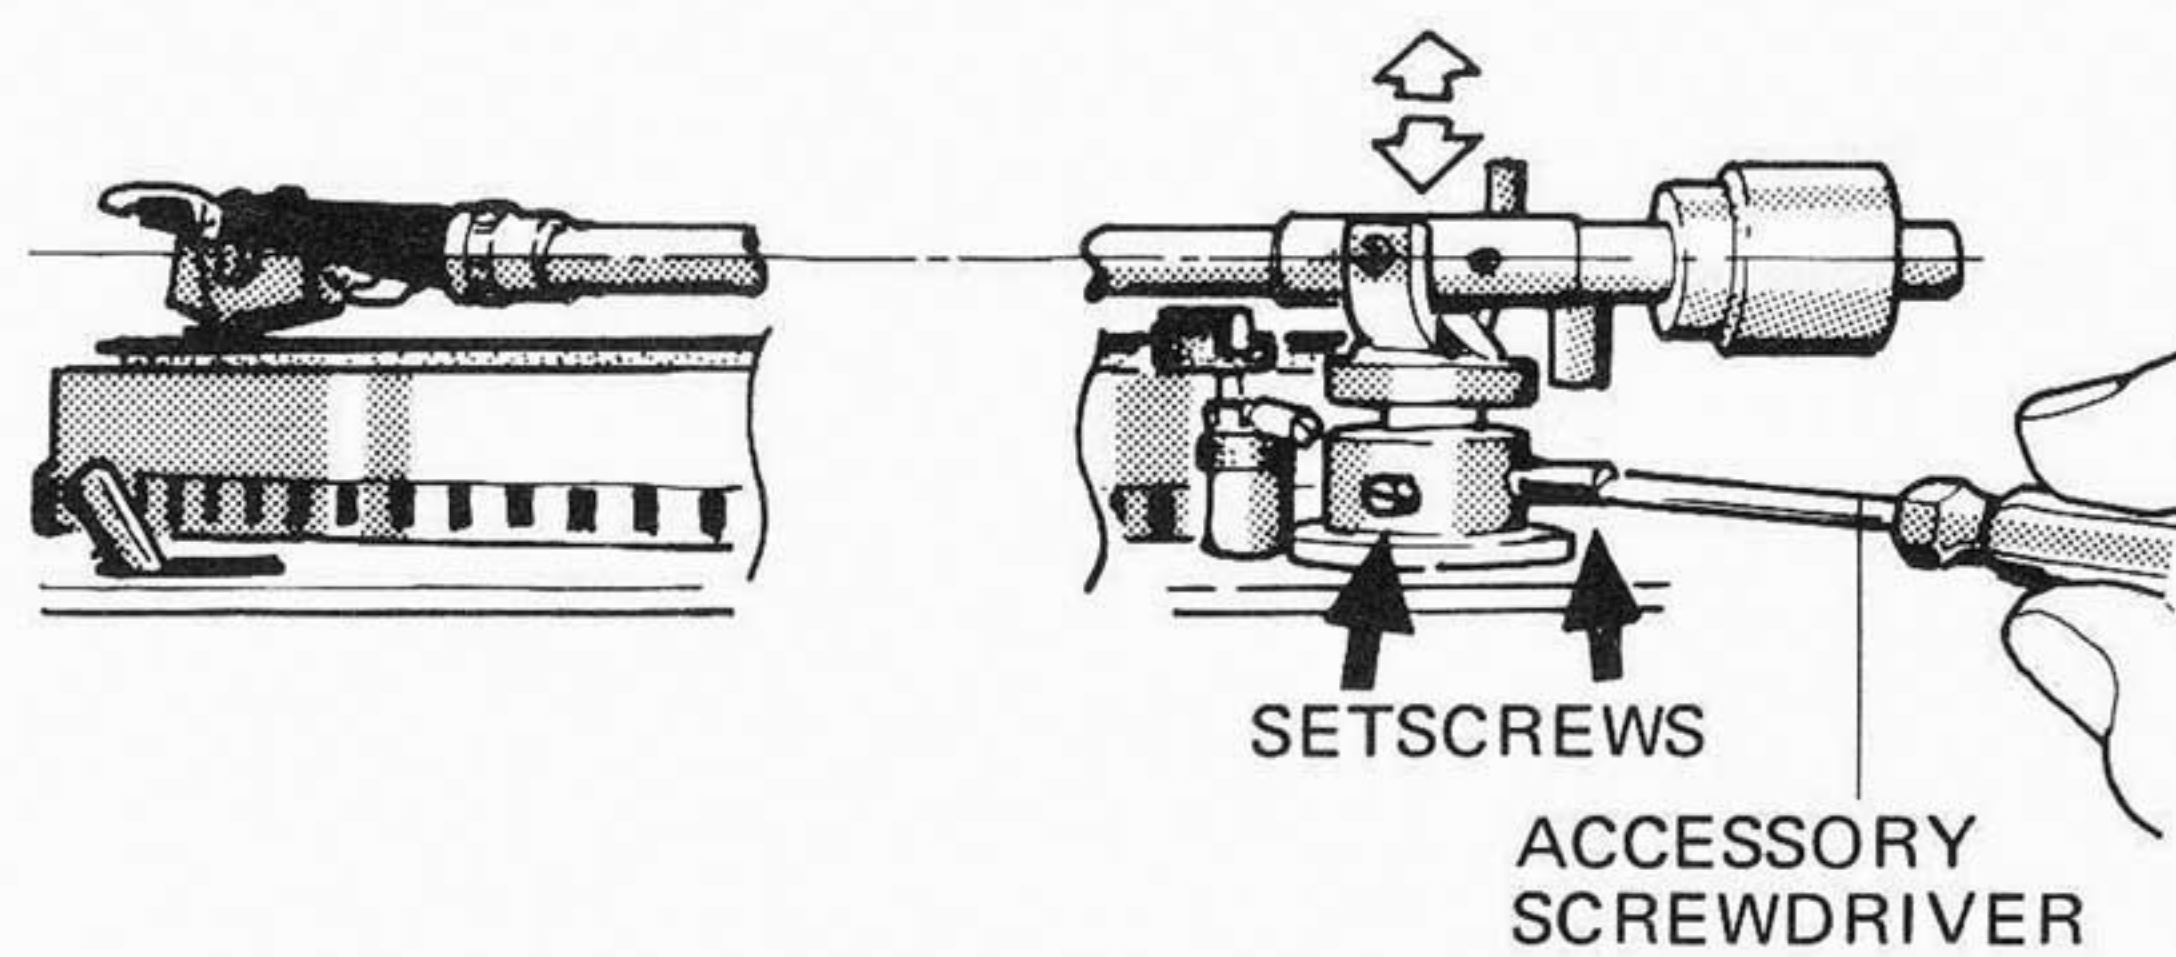

Fig. 11-A
3. Support tonearm by hand and use accessory screwdriver to loosen two setscrews of the arm stand. Slide the arm stand to adjust so that tonearm becomes horizontal with the record. Then tighten the setscrews (Fig. 11-A).